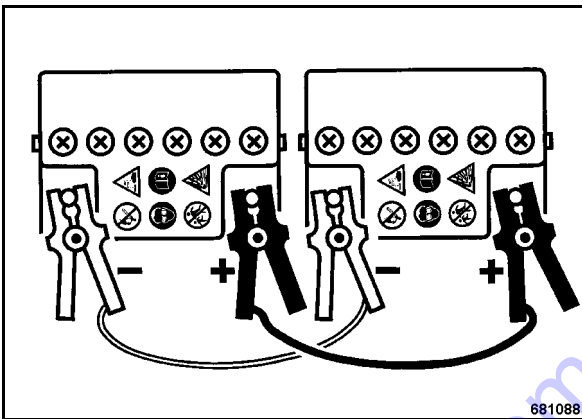

Fig. 20
- Connect the plus poles of auxiliary battery and starter battery with the jump cable (Fig. 20).